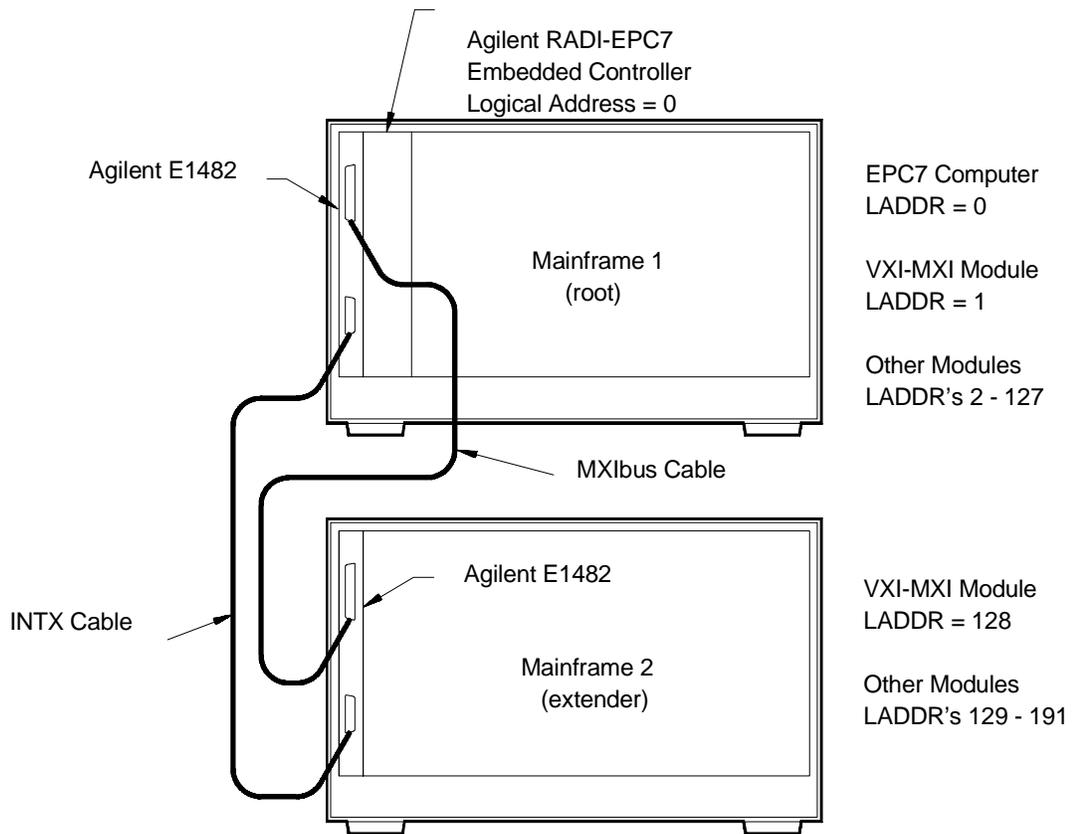

Figure 3-16. Embedded EPC7 System, 2-Frame
- 2-Frame - RadiSys EPC-7 (Figure 3-16)